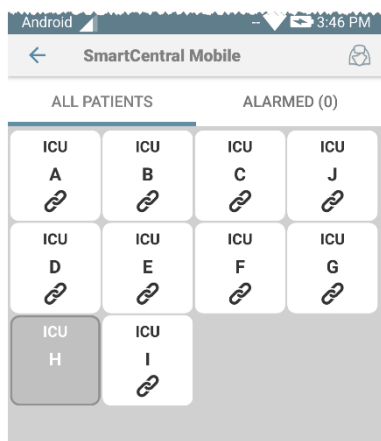

Fig 224
- Push the icon in Fig 223 **A** to access the Smart Central Mobile screen (Fig 224).